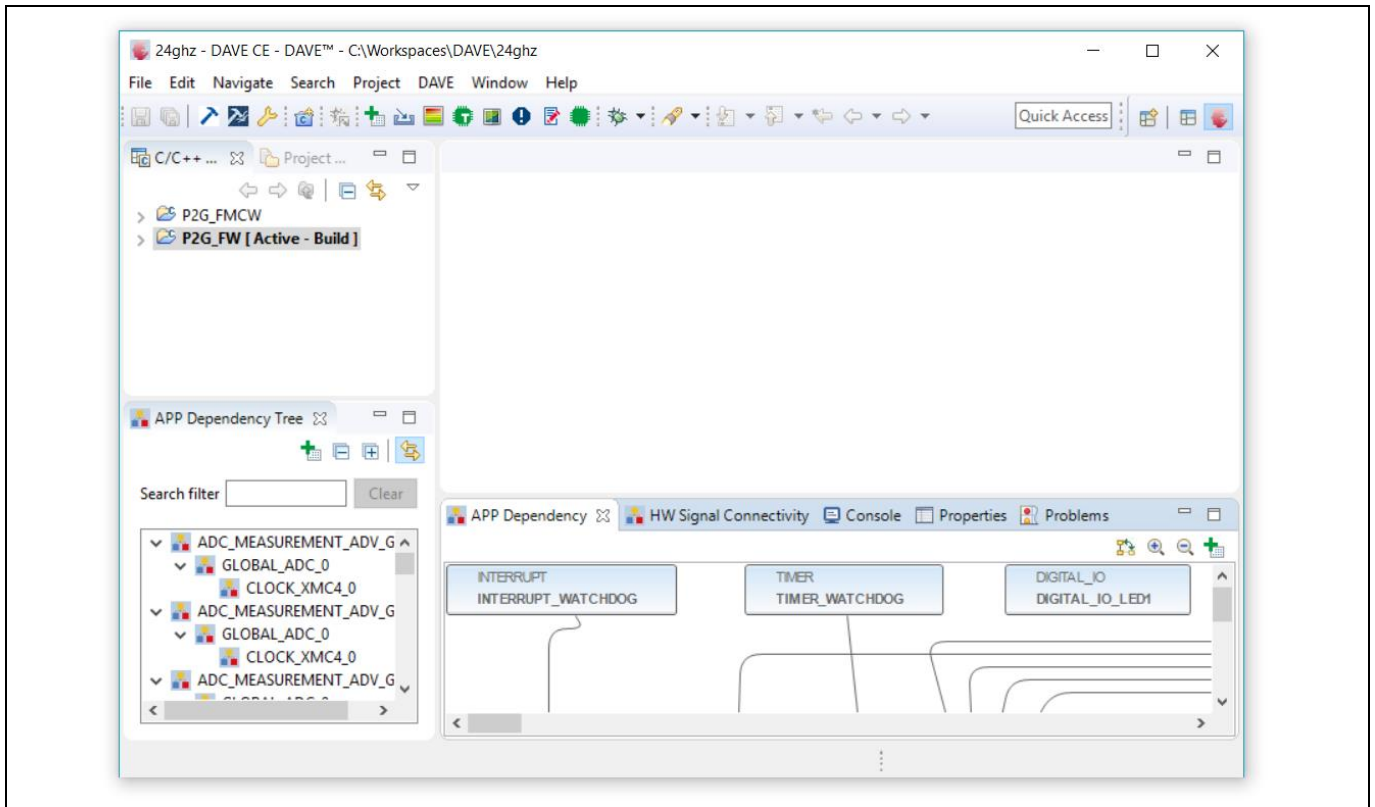

Figure 25 DAVE™ editor view
- The project file should appear under the **Project List**. Click on the **Finish** button. A screen similar to Figure 25 should appear.